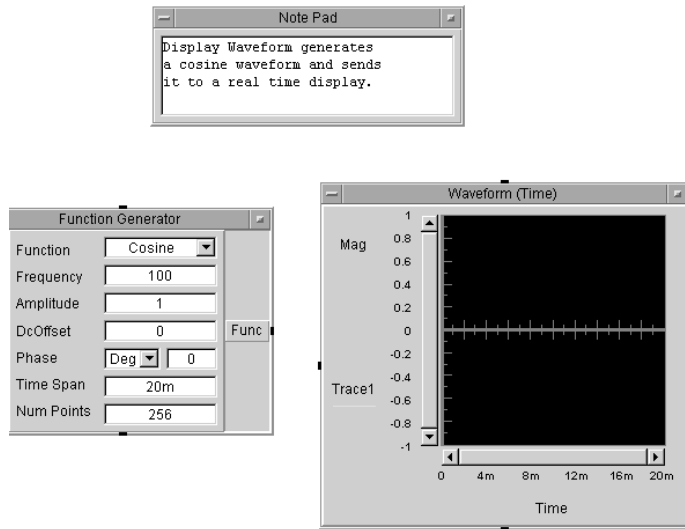

Figure 25 Creating a Program
- 3 Add the Waveform (Time) object. Select **Display** ⇒ **Waveform (Time)** and place the object to the right side of the work area as shown in Figure 25.
In Figure 25, the Func label on the Function Generator object denotes a *data output pin*, and the Trace1 label on the Waveform(Time) object denotes a *data input pin*. In VEE programs, you connect the data pins among the objects, and this determines the flow of the program.